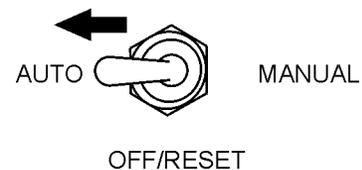

Figure 66. Off/Manual Auto Switch (AUTO)
4. Place the Off/Manual/Auto switch (Figure 66) on the MPEC unit to the **AUTO** position.